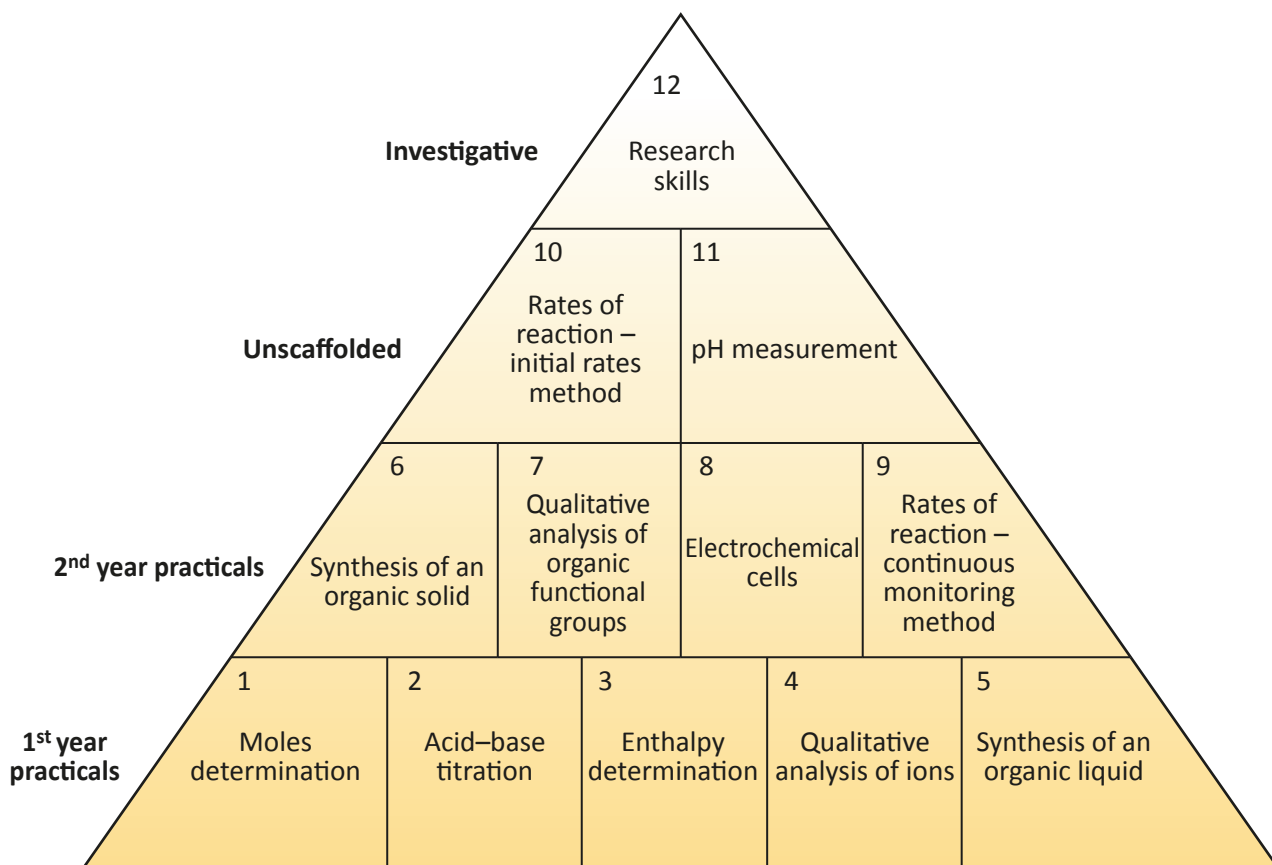

Fig. 1 OCR's Practical Activity Groups (PAGs), also see **Table 1**
from the Practical Activity Groups (PAGs) defined below (**Fig. 1**).
- A minimum of 12 practical activities to be carried out by each student which, together, meet the requirements of Appendices 5b (*Practical skills identified for direct assessment and developed through teaching and learning*, covered in Section 1.2.1) and 5c (*Use of apparatus and techniques*, covered in Section 1.2.2) from the prescribed subject content, published by the Department for Education. The required practical activities are defined by each awarding organisation (see **Fig. 1** and **Table 1**)